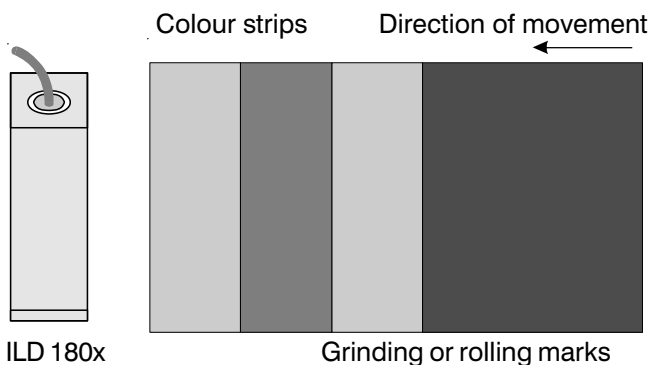

Fig. 9.3: Sensor arrangement in case of ground or striped surfaces
- In case of rolled or polished metals that are moved past the sensor the sensor plane must be arranged in the direction of the rolling or grinding marks. The same arrangement must be used for colour strips (fig. 9.3).